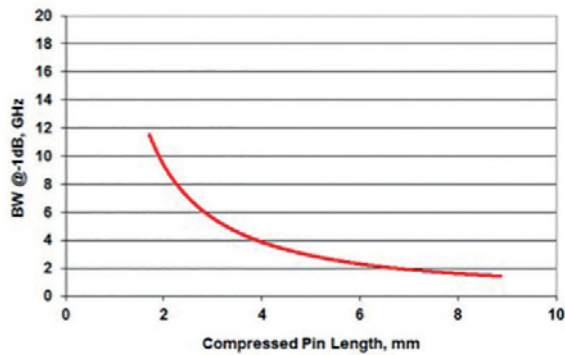

Figure 6: Bandwidth vs connector length
1. Total length of the contactor (contact sheet head + elastomer thickness). As shown in Figure 6, the bandwidth decreases significantly when the contactor length is $>3\text{mm}$. Most conductive-elastomer thicknesses are $\sim 1\text{mm}$. After adding a contact sheet, the total contactor length is around $2\text{--}3\text{mm}$. Using a minimum contact-sheet thickness is critical for contact sheet design, since thinner contactors minimise noise in signal transmissions.